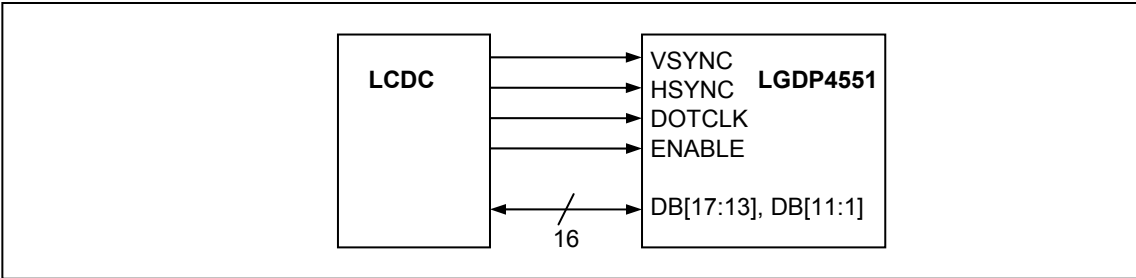

Figure 43 16-bit RGB interface
6. When switching between the internal operation mode and the external display interface operation, follow the sequences in Figure 43 RGB and Internal Clock Operation Mode switching sequences.